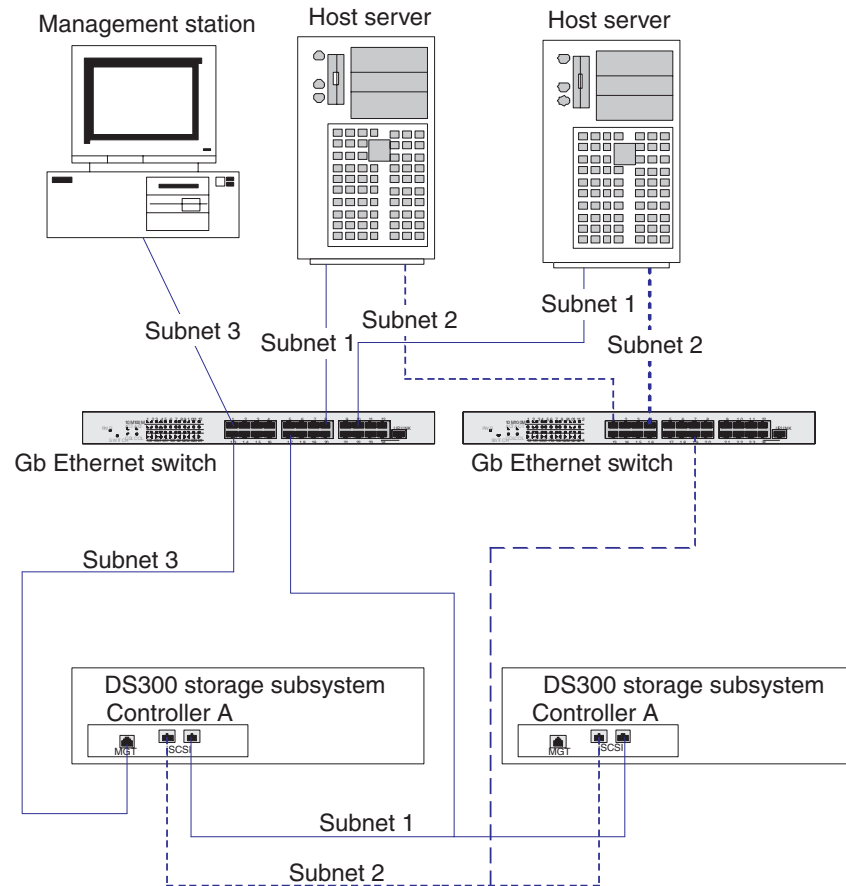

Figure 12. Multiple port, multiple server, multiple storage subsystem configuration (DS300)
**Note:** You can replace the two Gb Ethernet switches shown in Figure 12 with one large Gb Ethernet switch with enough ports. VLAN can also be used to isolate the two iSCSI networks, instead of a single switch.